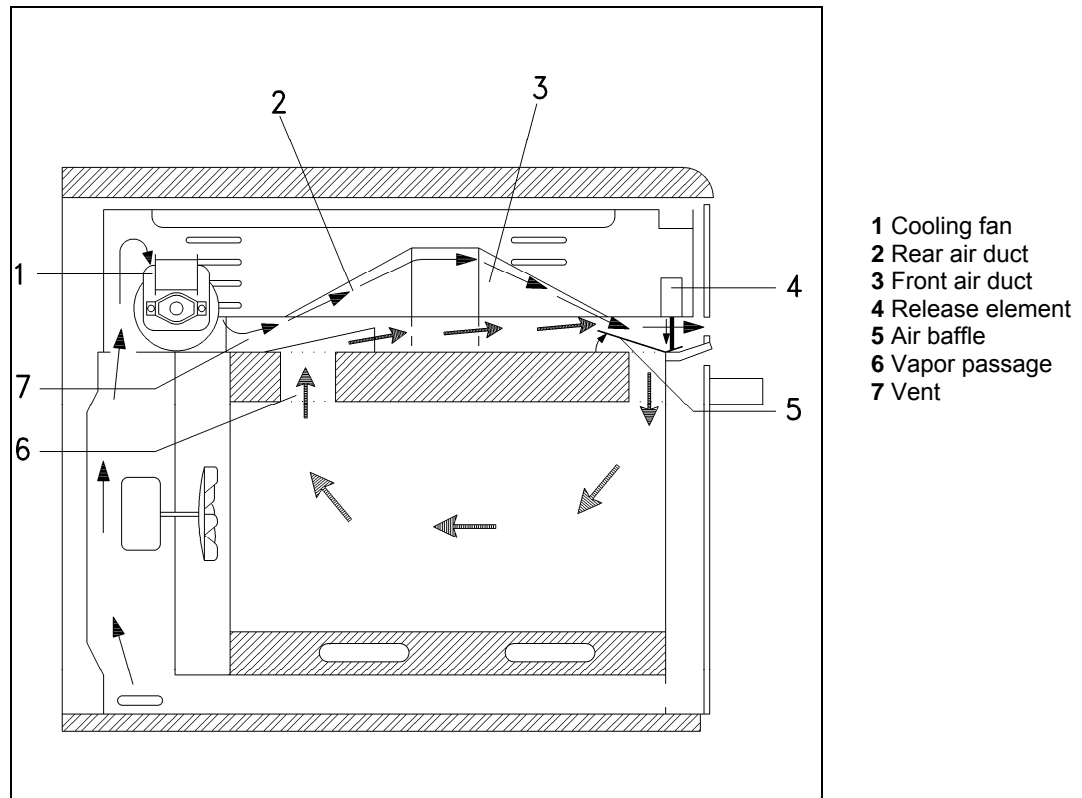

Figure 012-1: Ducting
The fan (Figure 012-1, Item 1) draws in cool air through the openings. The incoming air cools the appliance, the electrical components and the surrounding cabinet on all sides.
The fan moves the cool air to the rear of the air duct (Figure 012-1, Item 2). The air cools the magnetron and is then moved through the front of the air duct (Figure 012-1, Item 3) where it exits the appliance.
- a. **Air path during Microwave Solo cycle:** The release element (Figure 012-1, Item 4) opens the air baffle (Figure 012-1, Item 5), permitting a small amount of cool air to enter the oven cavity, where it mixes with vapor. The air/vapor mix then moves through the vapor passage (Figure 012-1, Item 6) to the vent (Figure 012-1, Item 7) where it again mixes with cool air. If the air baffle does not open, air cannot exit and
- b. **Air path during convection, broil and combination cycles:** The air baffle (Figure 012-1, Item 5) remains closed. Vapors move through the vapor passage (Figure 012-1, Item 6) into the vent (Figure 012-1, Item 7) and mix with cool air.